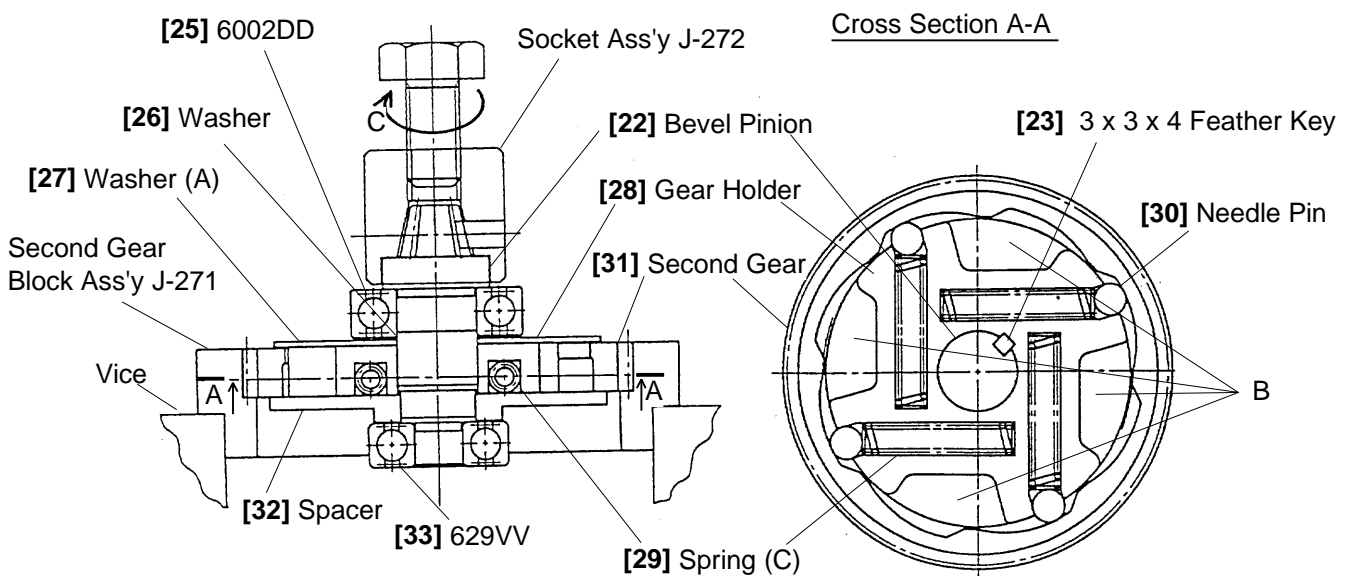

Fig. 13
Then install the Second Gear [31] on the outer circumference of the Gear Holder and place the Needle Pins [30] without inclination as indicated in Fig. 13, then press in the Spring (C) [29]. Fill the spaces "B" in Fig. 13 with No. 20 power tool grease, 2 g for each (8 g in total) and press in the Spacer [32] and then Ball Bearing 629 [33].